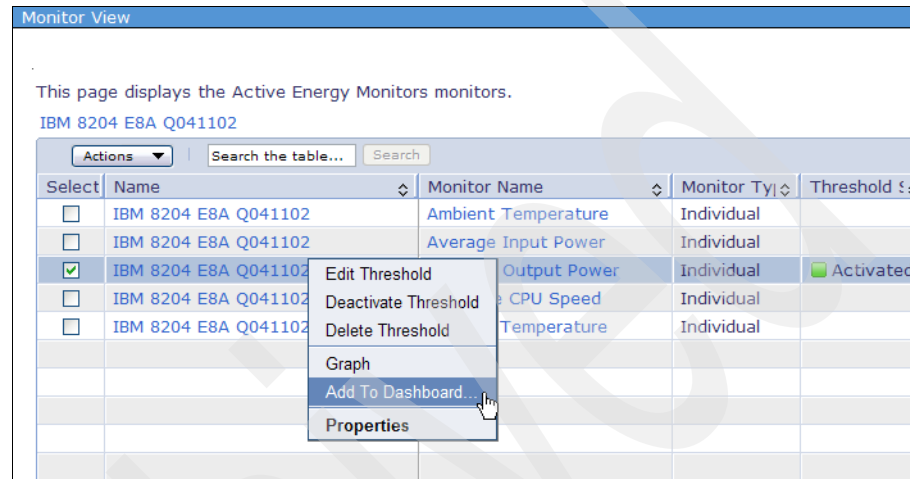

Figure 6-63 Adding a monitor to the dashboard
1. Right-click the monitor, and select **Add To Dashboard** (Figure 6-63). Notice also the option to Graph the monitor.